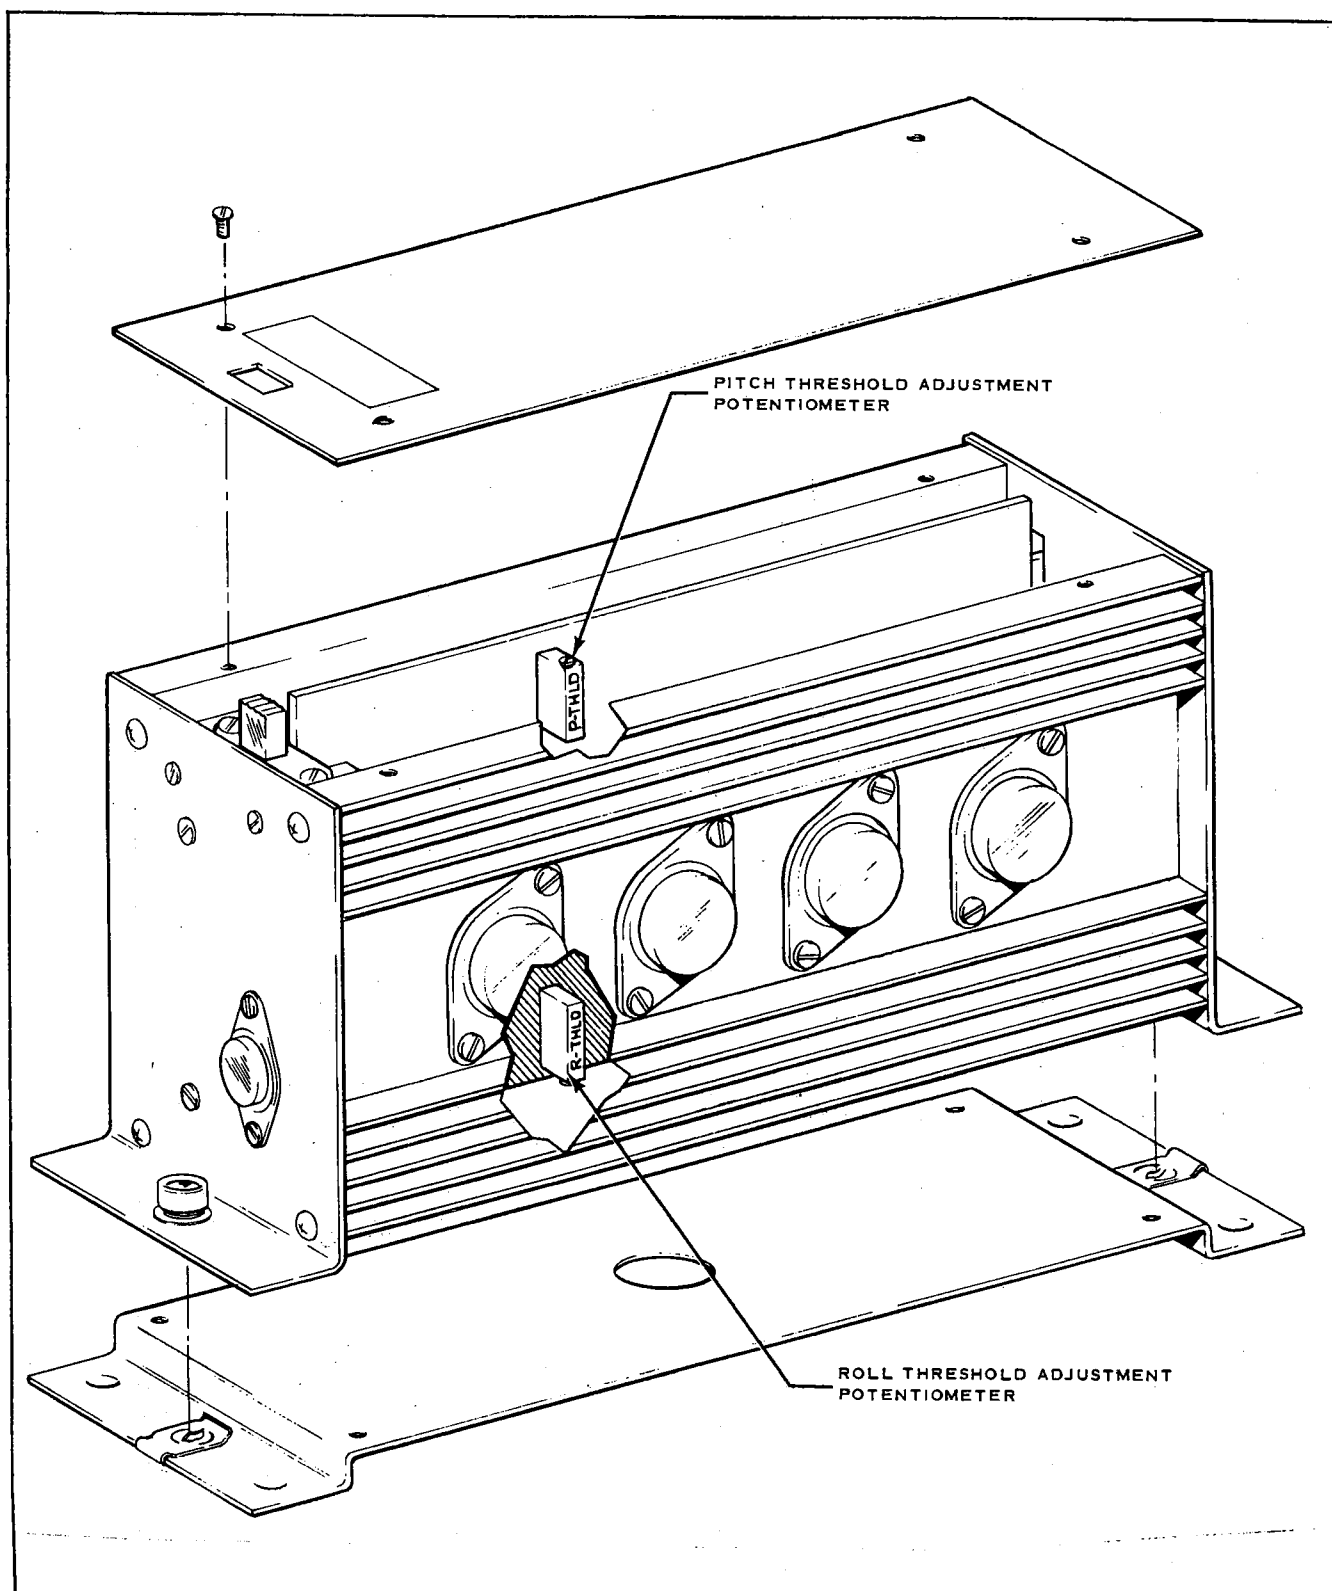

Figure 5-6. AltiMatic III B-1, 1C515-1 Amplifier
Remove the base plate from the bottom of the amplifier to gain access to the Roll Threshold Adjustment potentiometer. (Refer to Figure 5-6.)
13. Rotate the LARGE VERNIER CONTROL KNOB on Gyro Substitute Test Box, COUNTERCLOCKWISE for a one (1) degree left bank.
15. If voltage setting is correct proceed to next step. If voltage setting is incorrect find the Roll Threshold Adjustment Potentiometer, located on the lower section of the amplifier printed circuit board (refer to Figure 5-6), and adjust to obtain an average of the voltage settings listed in Table V-I by repeating Steps 11 thru 14.